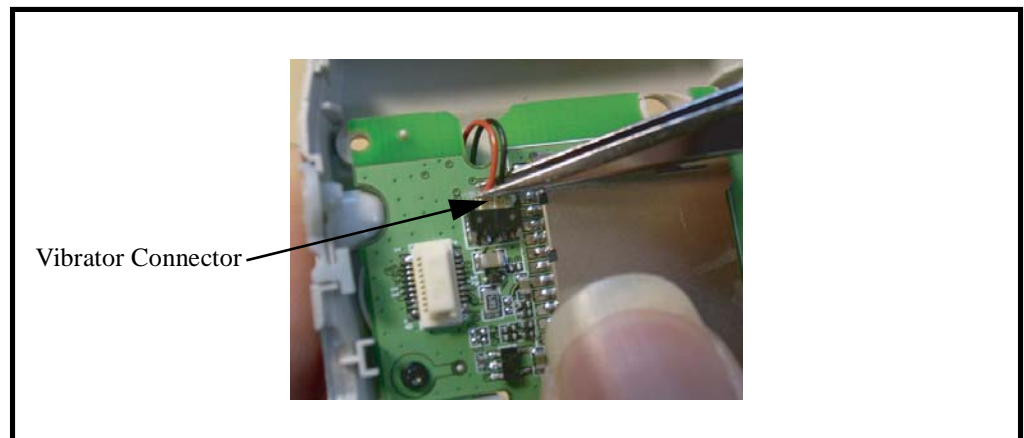

Figure 20. Removing the Vibrator Connector
3. Use a tweezers to disconnect the vibrator connector from the rear housing cover as shown in Figure 20.